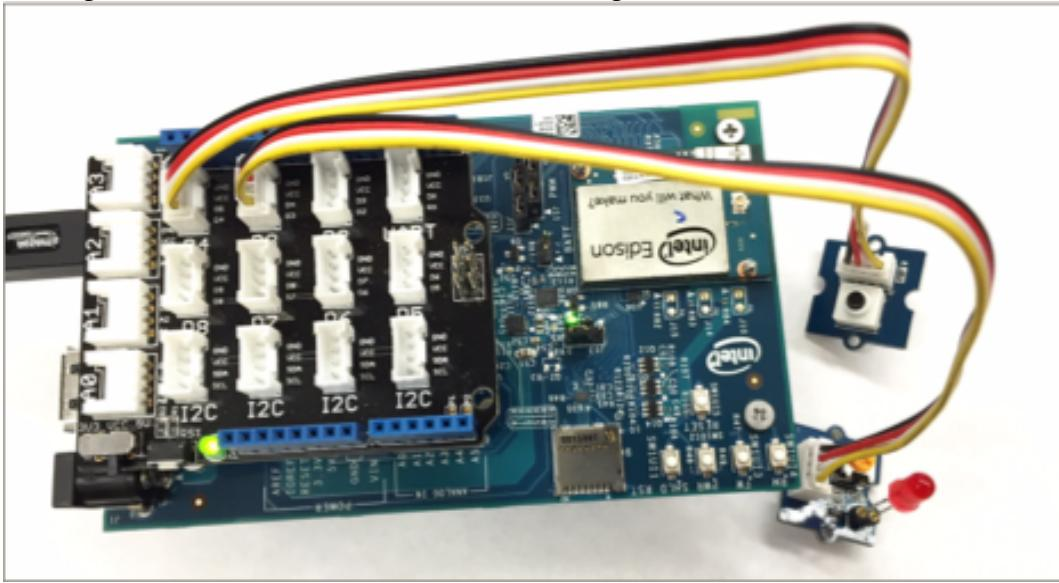

Figure 6: Hardware configuration to demonstrate generation of signals using a button press
1. Configure the hardware such that it matches Figure 6.